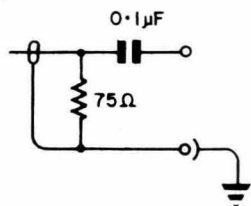

Fig. 1
- Using probe of Fig. 1 and attenuator, inject I.F. sweep into last stage by connecting between C118 and earth strip.